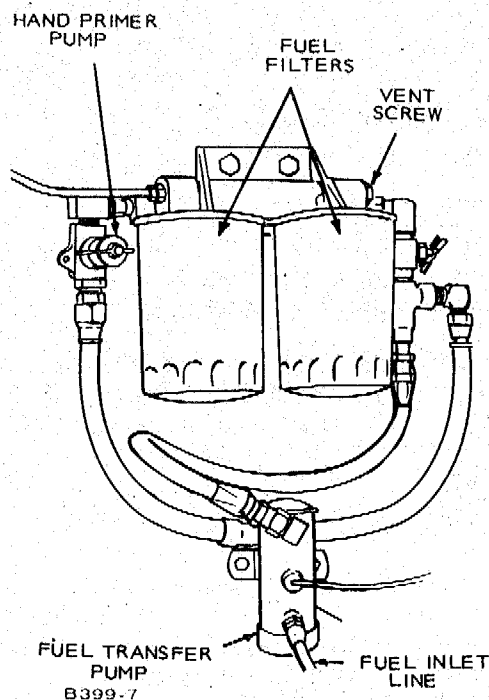

FIGURE 22. PRIMING FUEL SYSTEM
1. Loosen filter vent screw (Figure 22).
2. Using hand pump (Figure 22), prime system until fuel flow around filter vent screw is free of bubbles.